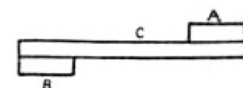

FIG. 192
1. Bench-hooks, against which children can press their strips of wood and hold them firmly. A simple one is shown in Fig. 192. C is a piece of hard wood about 8 inches square, A is a strip of hard wood against which the child can hold her wood, B is a strip of wood that presses against the table.